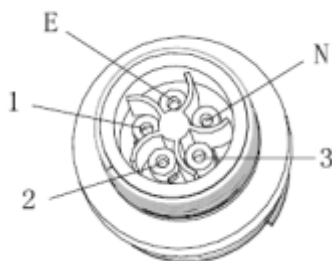

Fig.5.1.5
- 2) Connect 5 cables into their respective channels on the AC terminal shown as Fig.5.1.5, for the mark beside every socket, 'N' represents Neutral, '1, 2, 3' represent 3 live channels and 'E' is ground, tighten all screws (1.0Nm (9 lbf. in.) max).